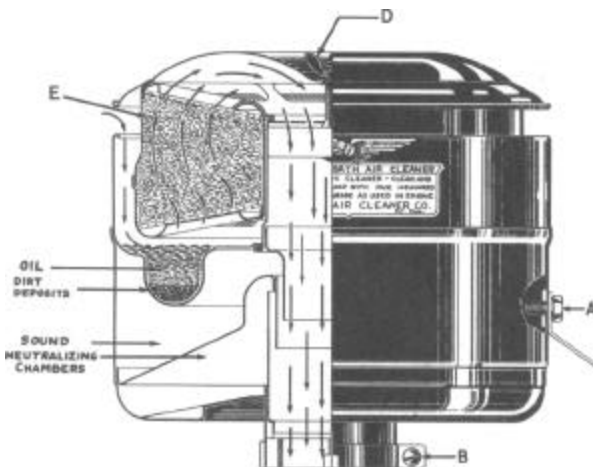

Figure 29 Air Cleaner Oil Bath Type
2. Remove the brace screw (A), Figure 29, and loosen the clamp screw (B). Remove the wing nut (D).
3. Lift the filter element (E) out of the body and wash in kerosene and dry it.